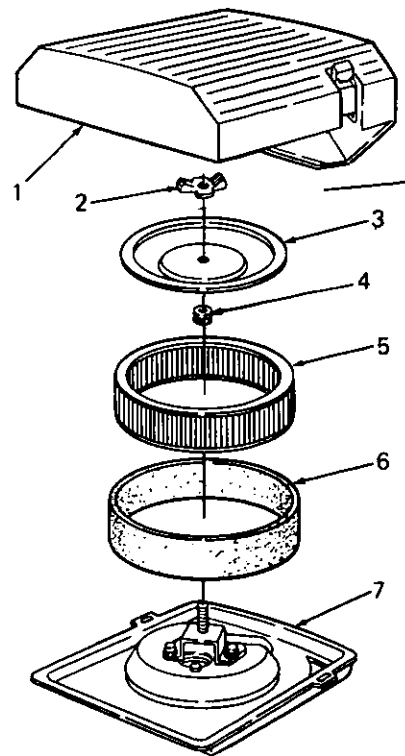

Figure 37. Air Cleaner Assembly
1. Unhook latches and remove air cleaner cover. (See Figure 37.)